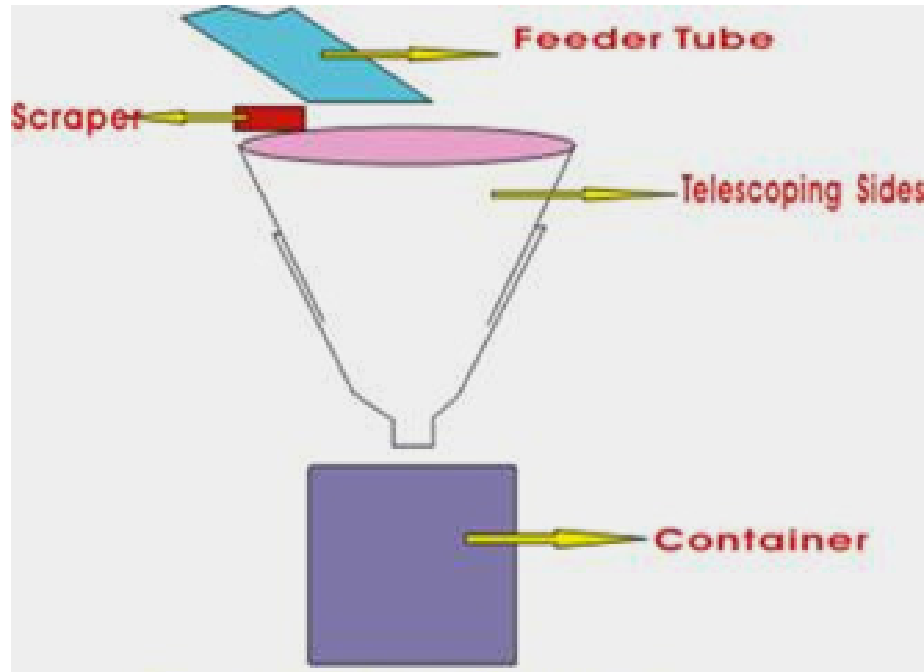

Figure 20.20 Cup or Flask Fillers
- Getting its name from the cup or flask that is used to measure the amount of product that is delivered (Figure 20.20). The sides of the cups telescope so that the cup size can be adjusted to the exact volume that is needed.